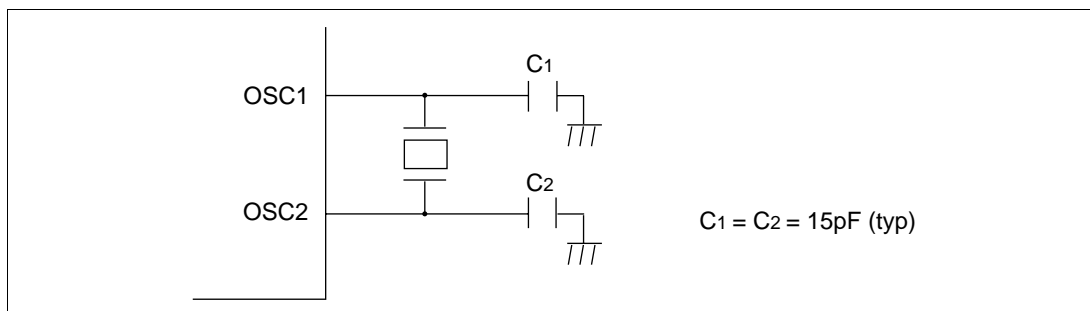

Figure 19-9 Example of Connection of 32.768 kHz Crystal Resonator
(1) Method of Connecting 32.768 kHz Crystal Resonator
To supply a clock to the subclock oscillator, a 32.768 kHz crystal resonator should be connected as shown in figure 19-9. Cautions concerning the connection are as noted in section 19.3 (3), Notes on Board Design.